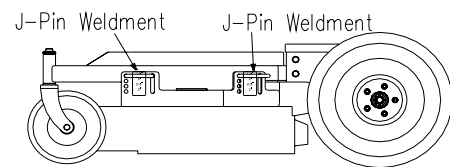

FIG6
- To raise the mower deck, pull J-pin, align the hole of left carrier frame or right carrier frame on the register mark of the mower deck, release J-pin, make sure the reading of register mark is the same. FIG6.